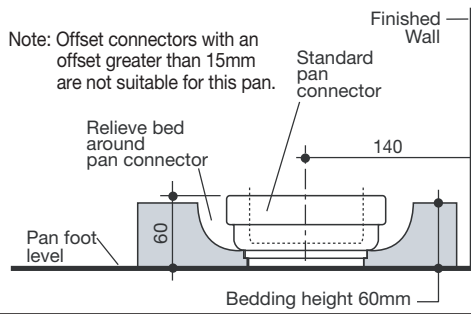

Fig. 1
The 'S' and 'P'-Trap pan installations are detailed in **Fig 1 & 2**. The recommended set-out for 'S'-Trap installations is 140mm from the finished wall. It is important to position the pan collar 60mm Max. from the foot level of pan as detailed in **Fig. 1**.
- 3- Prepare bedding sand cement mixture 3:1 to depth of 60mm as detailed in **Fig.1**.